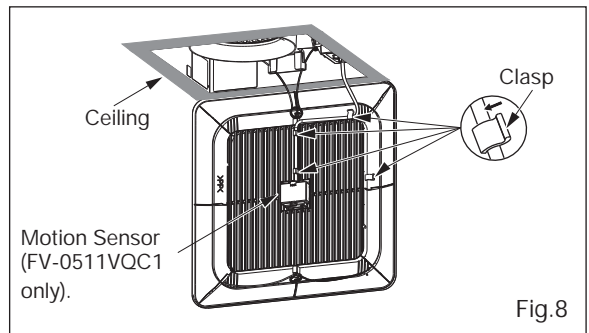

Fig.8
10. Insert the grille mounting spring on the wiring side into the slot. (Fig.8)
11. Insert the motion sensor on the grille and dress the wire as shown. (Fig. 8)